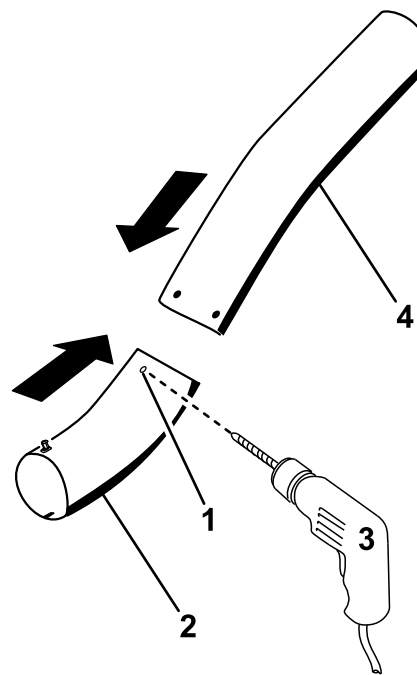

Figure 31
13. Using the existing holes in the upper tube as a template, drill 2 holes, 6.5 mm (1/4 inch) diameter, through the dimples on the lower tube (Figure 31).
16. Install the washers (1/4 inch) onto the bolts (Figure 31).
17. Using a hex key tool, install the screws (1/4 x 3/4 inch) and washers (1/4 inch) from the inside of the lower tube and through the existing holes in the upper tube (Figure 31).
18. Secure the tubes together with the nuts (1/4 inch) as shown in Figure 31.